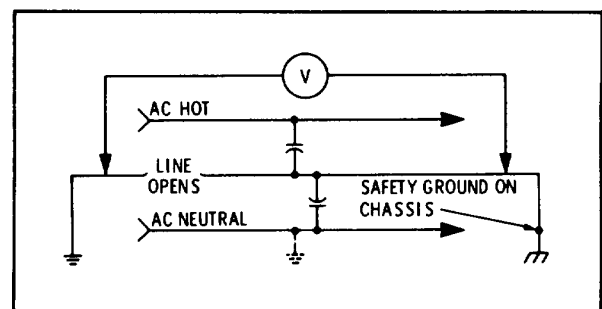

Figure 1-2. Circuit if Equipment Ground Lead Opens
1-7. **WARNING.** Ensure that the Spectrum Analyzer and any device connected to it are both properly grounded to the same power line ground. An interrupted path from earth ground to an instrument chassis safety ground (an open third-wire ground lead in a cord; for example, see Figure 1-2 below) can develop a potential (V) equal to one half of the power line voltage. This may cause a shock hazard as well as damage to the instrument.